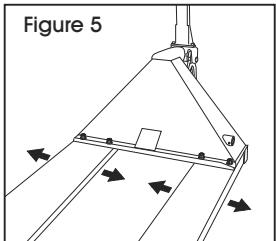

Figure 5
3. Slide each fork to the desired position. (See Figure 5)